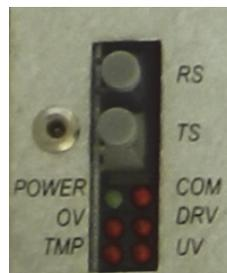

Fig. 10-14 Power Unit Indicator Location
- Power unit indicator is shown in figure 10-14; unit status is normal if “POWER” and “COM” light up. If there are other LED indicators lighting up due to a further inspection in necessary, please contact the DELTA personnel.